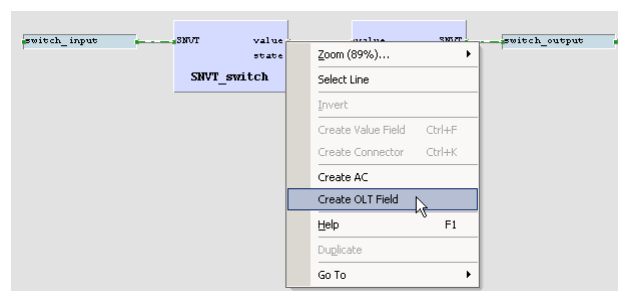

Figure 39: Create online test fields
12. For later debugging, it is good practice to add online test fields to the drawing, to display the current value of the signals during online test. To do this, right-click on the value output of the left function block and select **Create OLT Field** from the context menu, as shown in Figure 39.